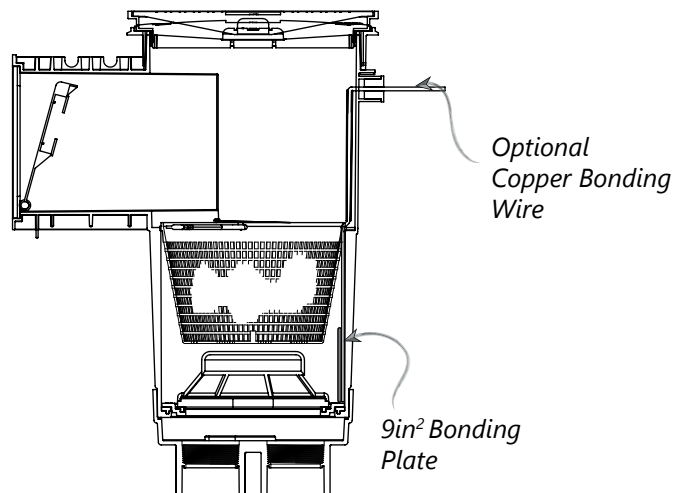

FIGURE 3: OPTIONAL WATER BONDING
4. WATER BONDING - POOL DEFENDER® MODELS ONLY (FIG 3)
- As required in NEC section 680.26(C) the bonding device: